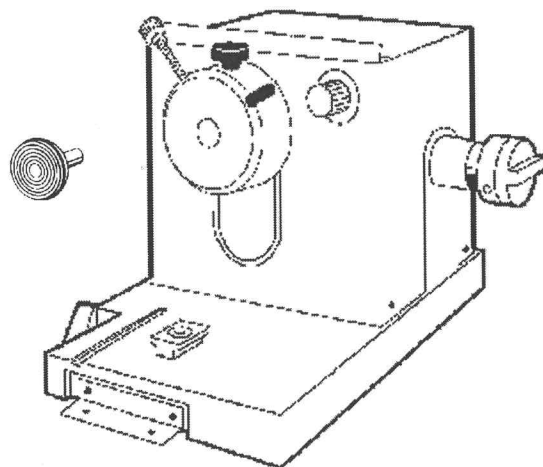

Fig. 18
- Activate the Peltier element (4), if available - it may take up to 40 seconds until the maximum refrigeration output is available.
- Once the specimen is frozen, insert the specimen disc in the specimen head (Fig. 18) and start sectioning.